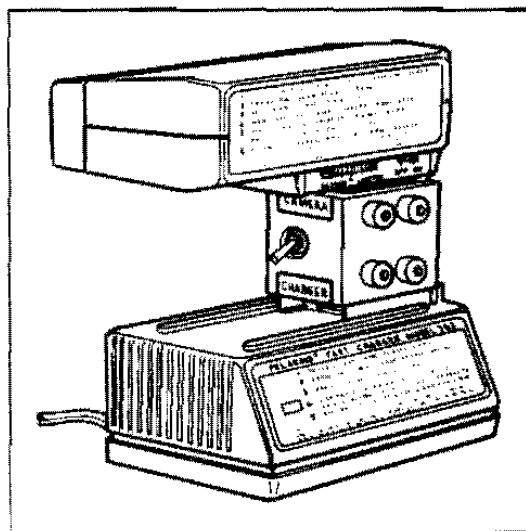

FIG. 2-3 TEST SETUP
1. Connect the electronic flash (with the flash in the "OFF" position) to the 360 Meter Connector Block and then slide the block onto the battery charger. (See Figure 2-3).